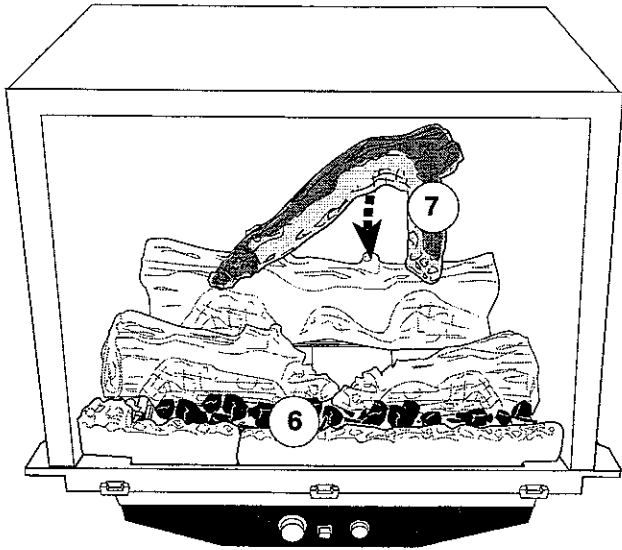

Fig. 22. Install the top log; engage prongs on the back and left logs with sockets on the underside of the top
- Loosely sprinkle the lava rocks directly on top of the burner, between the front and middle logs. Do not place any ember or lava material behind the middle logs. Fig. 22
- Engage the upper log with the rear log and the left middle log as shown in Fig. 22. Engage the socket on the underside of the upper log with the mating anchor nub on the back log. Ensure that the top log is positioned properly relative to the right middle log, as shown in Fig. 23